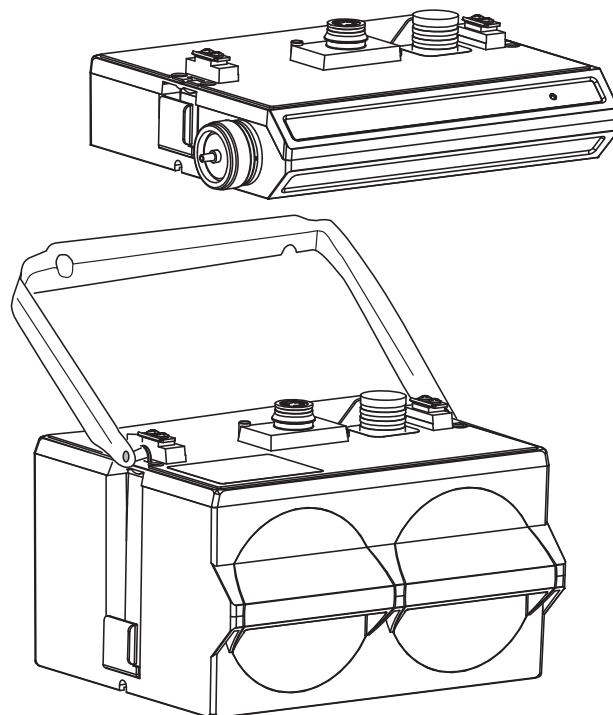

Figure 2-4 Assembling a basic portable system
- a. Install the 2150EX module (2.4.3 and Figure 2-4).
To connect the 2150EX and 2196EX modules, refer to the following instructions and Figure 2-4.